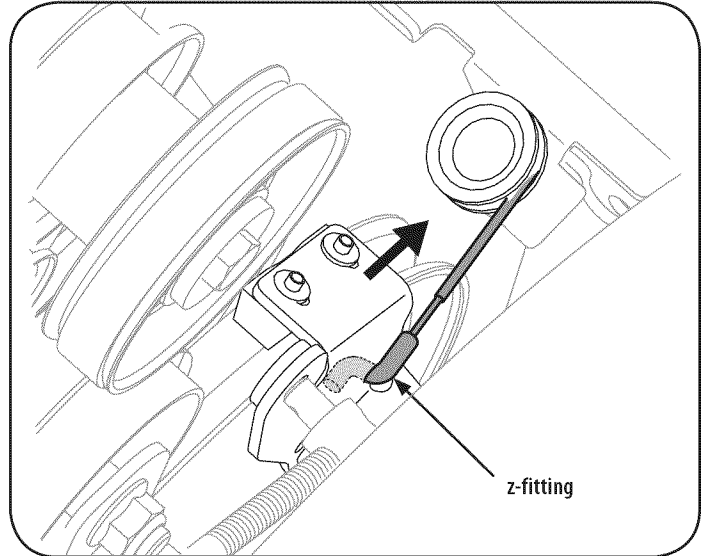

Figure 33
2. Pull the brake bracket assembly towards the cable guide roller and unhook the auger cable z-fitting. See Figure 33.